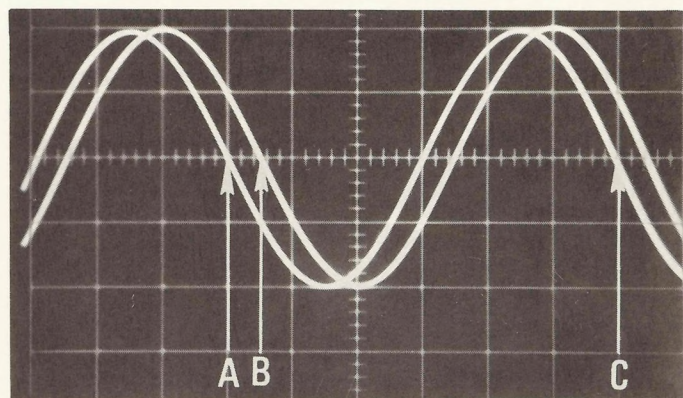

Fig. 10. Determining time delay between signals.
2. Connect CHANNEL A to the input or nonadjustable signal. Connect CHANNEL B to the other, and adjust the PS163 controls for two cycles of information as shown in Fig. 10. The actual time delay between the two signals can be measured as follows:
The total time for one 360 degree cycle in Fig. 10 is .6mSec. The phase difference can be found with the following formula.